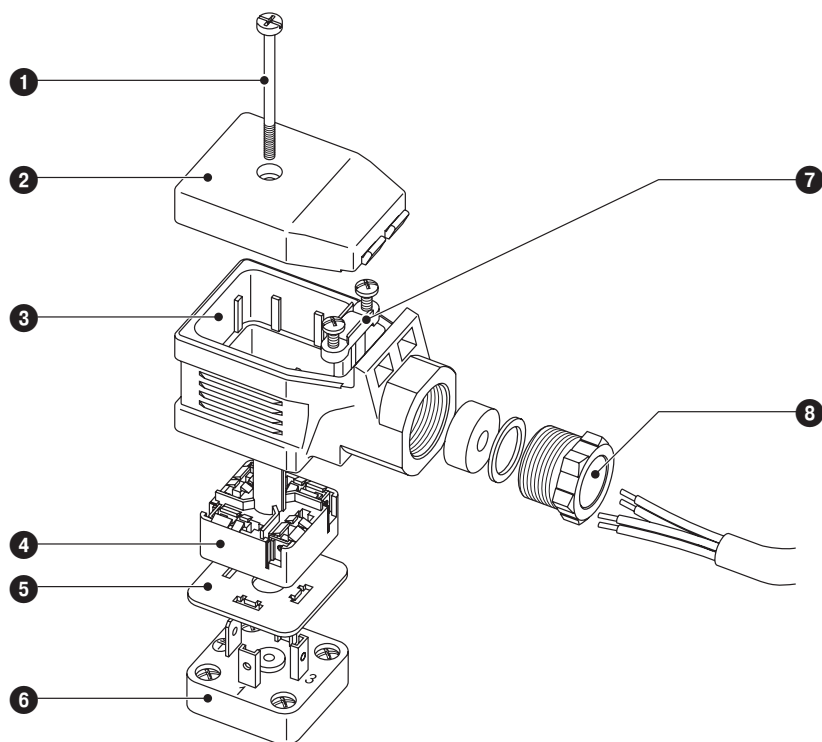

Fig. 10
1. Undo the screw ❶. **Fig. 10**
2. Remove the connector upper part ❸ from the level electrode and leave the sealing washer ❺ on the contact plate ❻.
3. Remove the cover ❷.
4. Press the connecting plate ❹ out of the connector upper part ❸.